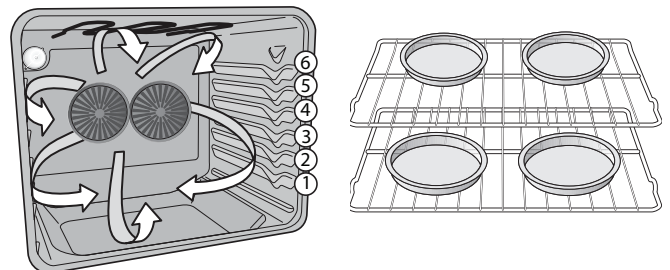

Figure 15: Rack positions **Figure 16: Pan spacing**
- For best results when baking cakes using two oven racks, place flat rack in position 5 and the glide rack in position 1. (See Figure 15).